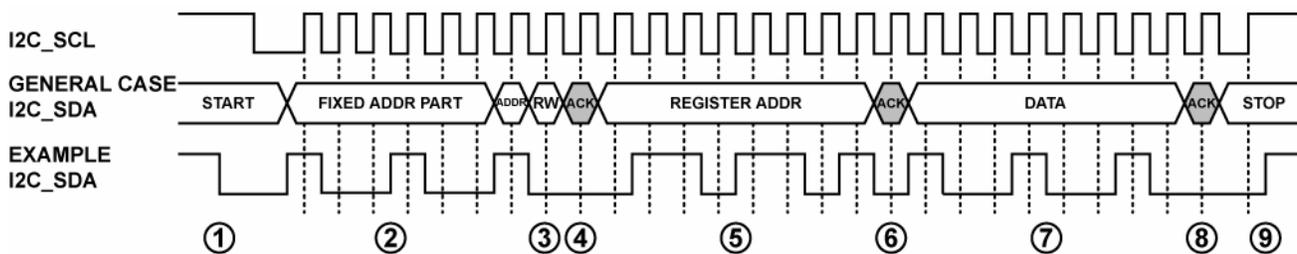

Figure 14. I2C Write Diagram
To write data to the AD8191 register set, an I2C master (such as a microcontroller) needs to send the appropriate control signals to the AD8191 slave device. The signals are controlled by the I2C master unless otherwise specified. For a diagram of the procedure, see Figure 14. The steps for a write procedure are as follows:
3. Send the write indicator bit (0).
- 9a. Send a stop condition (while holding the I2C\_SCL line high, pull the I2C\_SDA line high) and release control of the bus to end the transaction (shown in Figure 14).